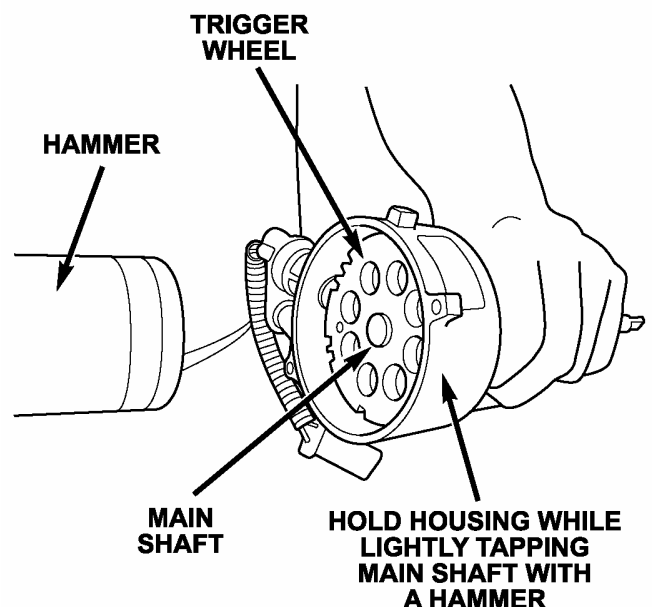

Figure 24
- 1. If the clearance is **insufficient (tight)**, hold the housing in your hand and **lightly** tap the main shaft with a hammer where it protrudes through the trigger wheel (Figure 24).